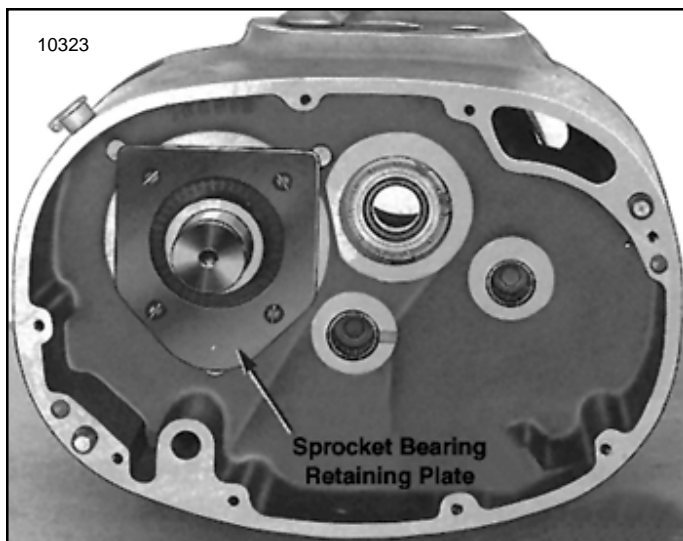

Figure 7-11. View of Sprocket Bearing Retaining Plate
(2) Unscrew four fillister head machine screws securing sprocket bearing retaining plate and remove plate (fig. 7-11). Remove and discard ring gasket from groove around bearing.